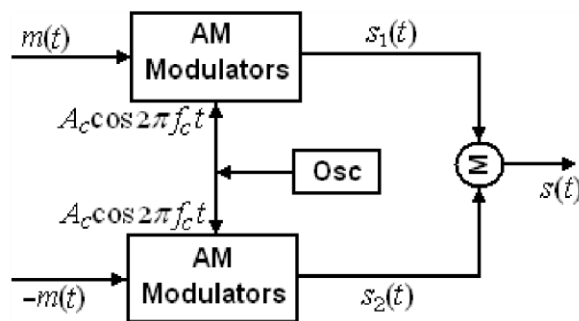

Fig. 2 Block diagram of Balanced Modulator
9. Connect the circuit diagram as shown in Fig.2.
Basic Theory: The block diagram of DSB-SC modulator is shown in Fig 2. A balanced modulator consists of two standard AM modulators arranged in a balanced configuration to suppress the carrier wave. We assume that the two modulators are identical except for the signal reversal of the modulating wave applied to the input of one of them. Thus the outputs of the two modulators are expressed as follows: